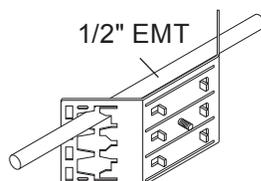

Figure 2
- B. With 1/2" (12mm) EMT as shown in Figure 2 below.